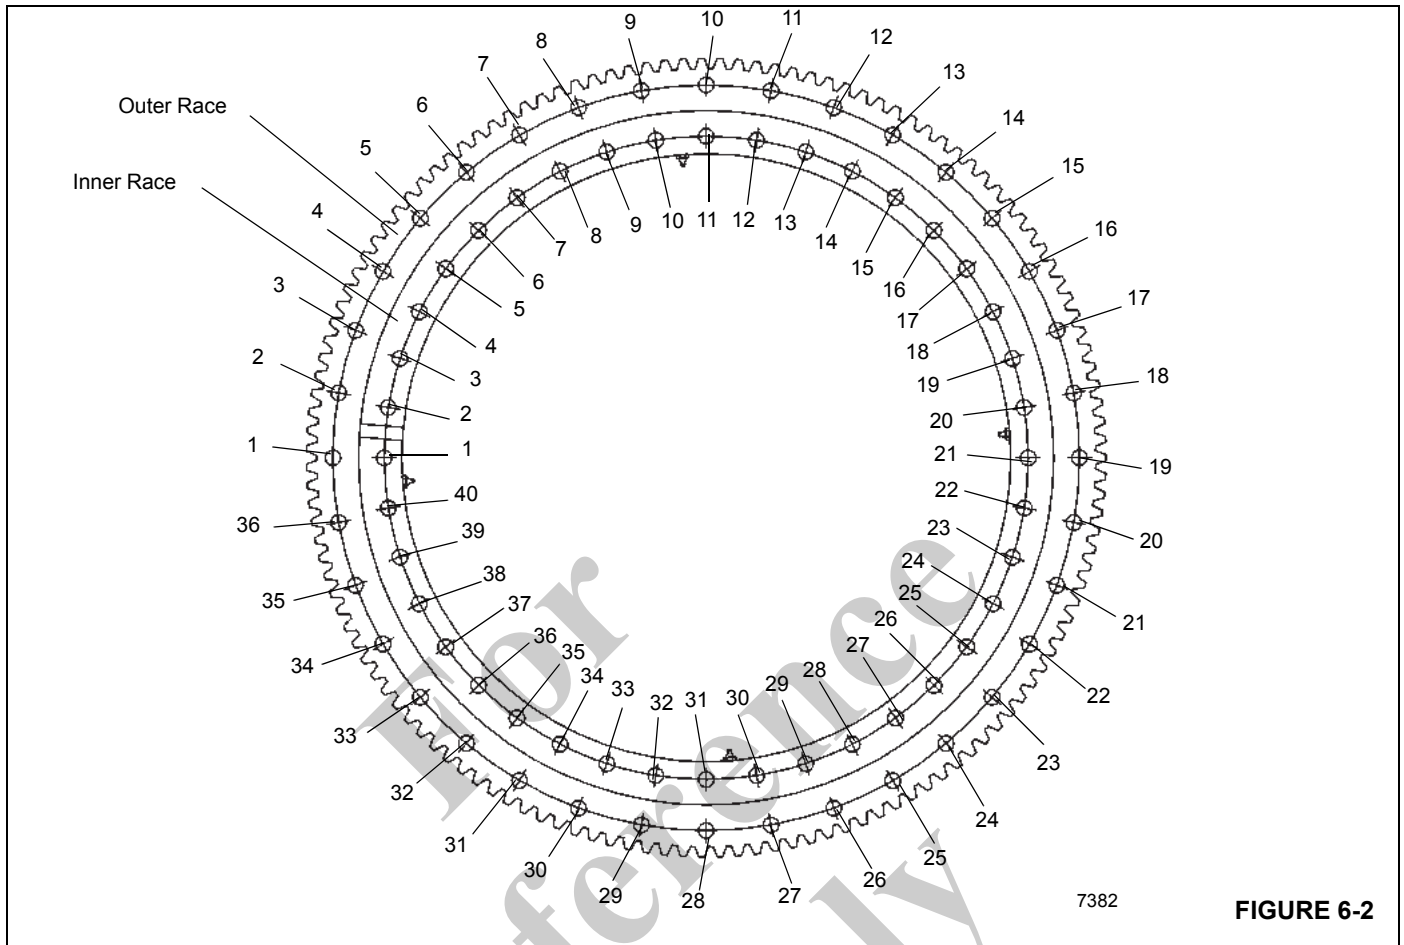

FIGURE 6-2
2. Torque eight bolts to 80% of their specified torque value using the following sequence pattern: 11, 31, 21, 1, 16, 36, 26, and 6 (Figure 6-2). Tools used are the socket, multiplier, backlash adapter, necessary extensions, and torque wrench.
2. Torque eight bolts to 80% of their specified torque value using the following sequence pattern: 10, 28, 19, 1, 15, 33, 24 and 6 (Figure 6-2). Tools used are the socket, multiplier, backlash adapter, necessary extensions, and torque wrench.